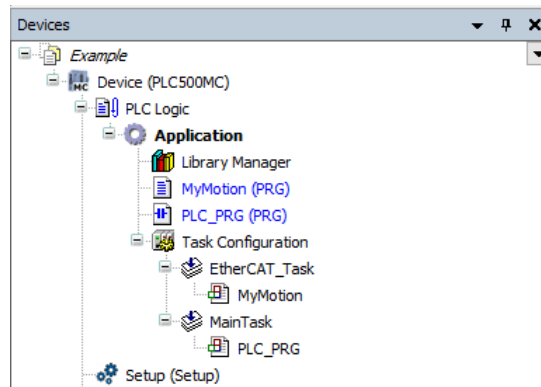

Figure 3.2: Add MyMotion POU to the *EtherCAT_Task* task.
- Drag **POU MyMotion** under the **EtherCAT_Task**, as shown in Figure 3.2 task.